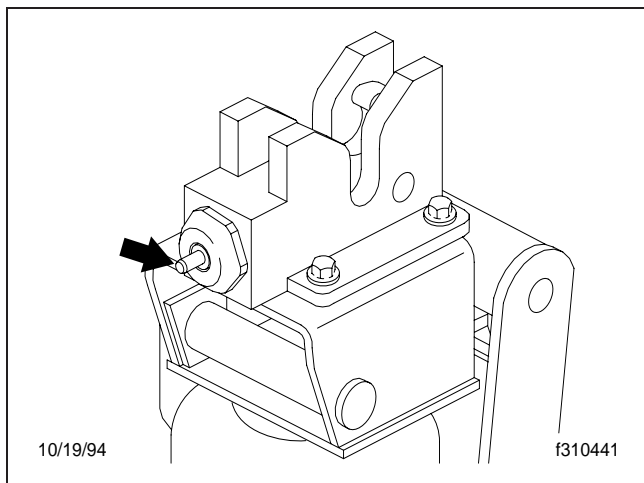

Fig. 1, Cab Mount Indicator Pin
IMPORTANT: Check the indicator pin on each cab mount. The cab mounts are unlocked if the pins are out. See **Fig. 1**.
5. After the cab is completely lowered, check the indicator pin on each cab mount. The cab mounts are locked when the pins have moved back into the piston and cylinder spring assembly. If the pins are out, the cab mounts are not locked. See Fig. 1. Raise and lower the pump handle until the cab is completely lowered and the cab mounts are locked.